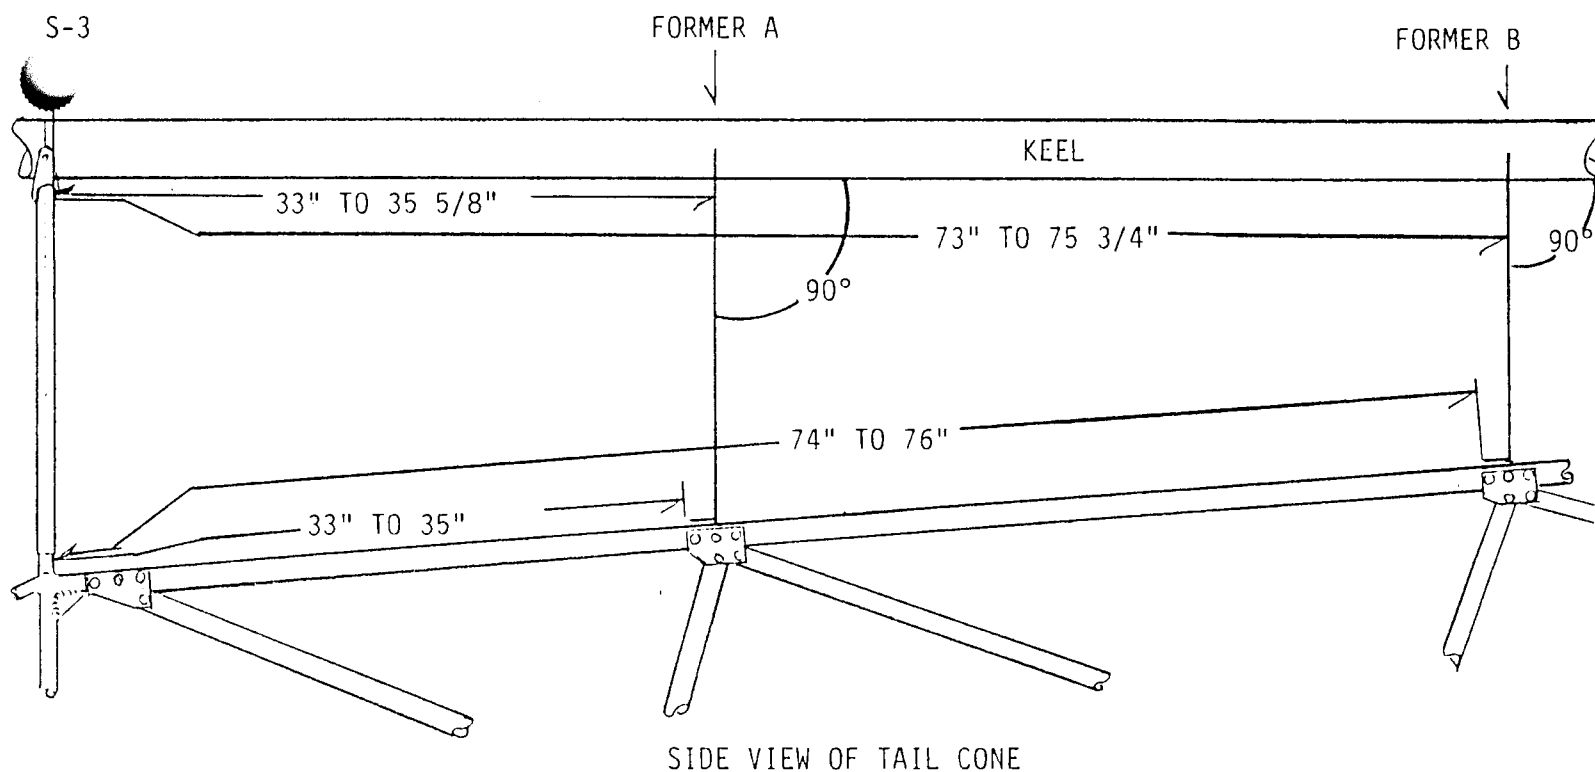

FIGURE 011-013
13. Use a tape measure to mark off the locations of formers A and B. PLEASE NOTE: How parts are located on the marks. See Figure 011-013.